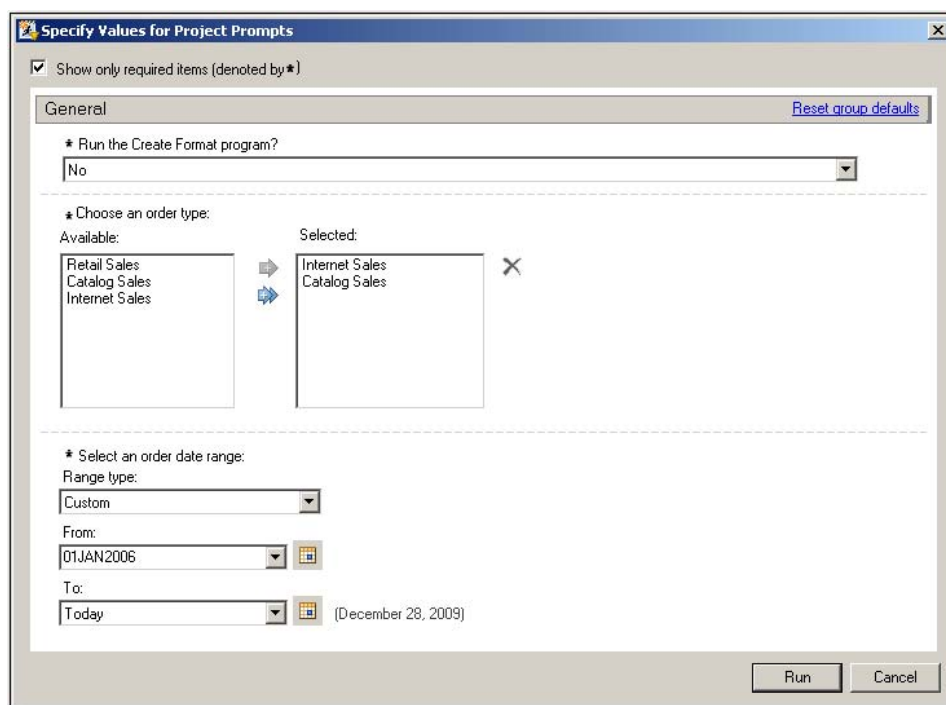

Figure 19. Prompt Window with Conditional Prompt
13. After removing the unnecessary prompt fields, enter the same values for the remaining prompts that were entered earlier. See Figure 19.